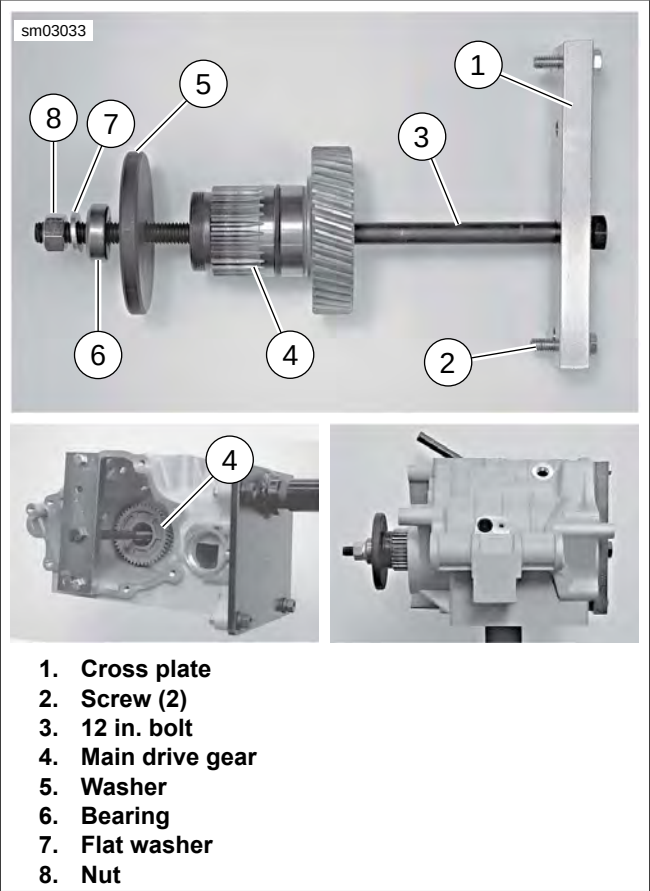

Figure 6-34. Removing Main Drive Gear
6. See Figure 6-34. Place CROSS PLATE (Part No. HD-35316-3A) (1) on right side of transmission case as shown,